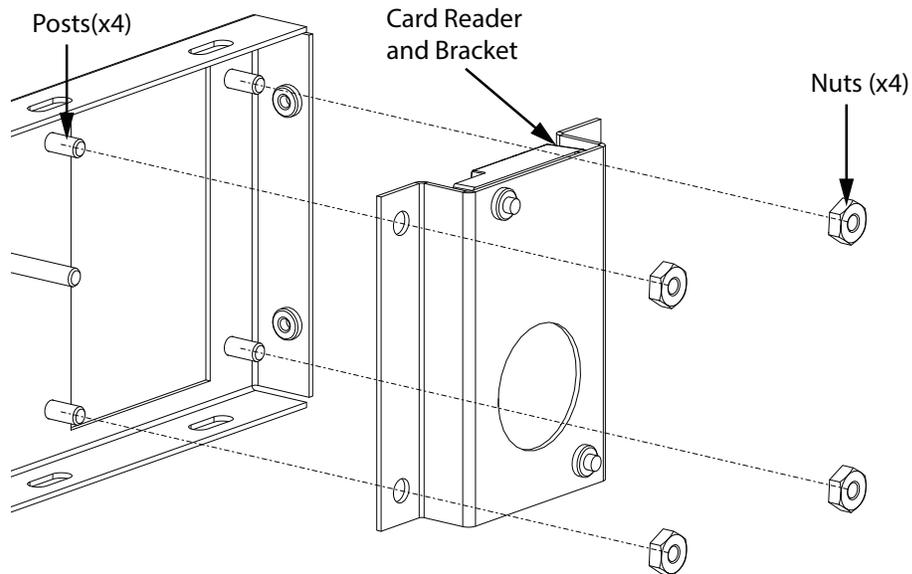
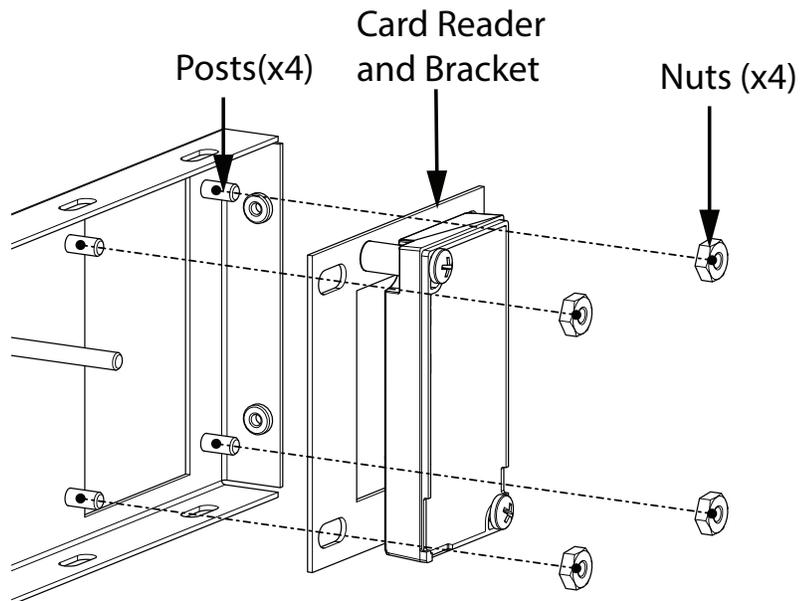

Figure 68. Old card reader bracket
Figure 69. New card reader bracket
4. Slide the bracket on to the 4 posts on the Touch Screen door and secure it with the 4 nuts as shown in Figure 68 and Figure 69.